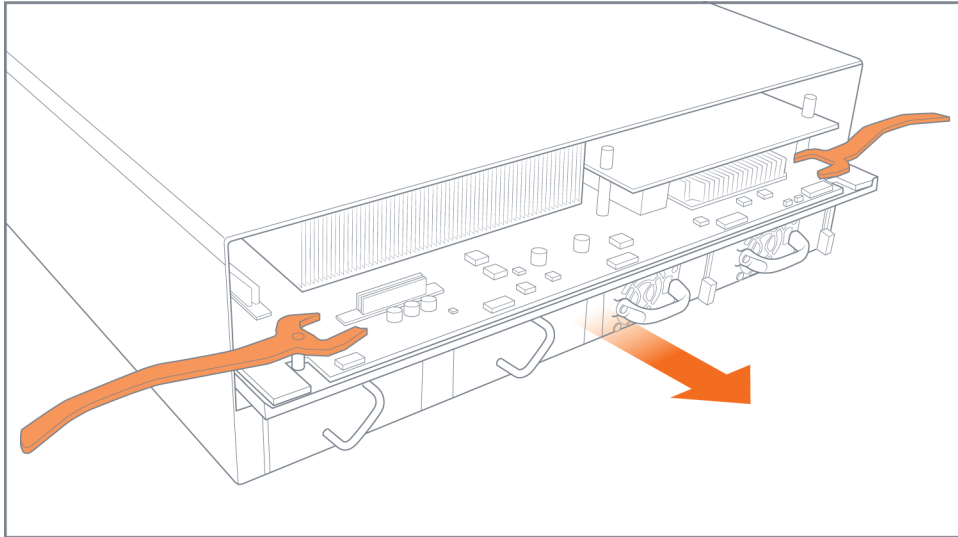

Figure 4-19: Control Card Removal
5. Pull out the control card. Refer to Figure 4-19 on page 84.